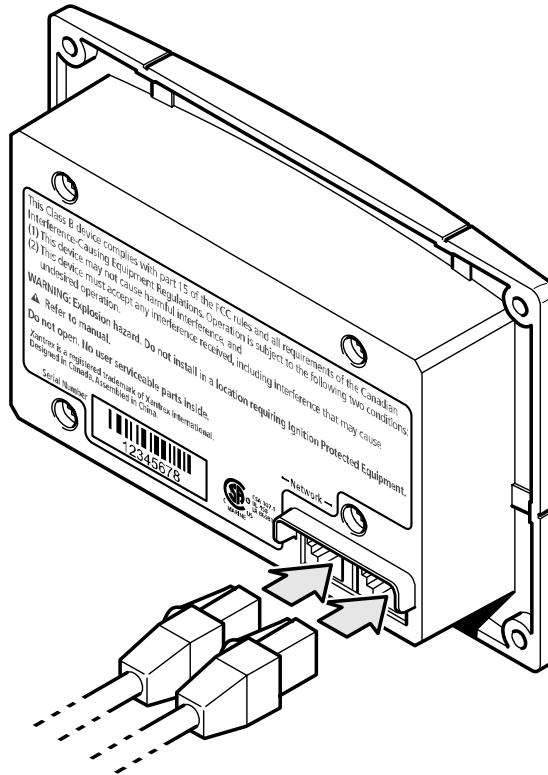

Figure 2-1 Connecting the network cables
4. Connect the network cable(s) (and terminator if necessary) to either input on the back of the System Control Panel. See Figure 2-1.